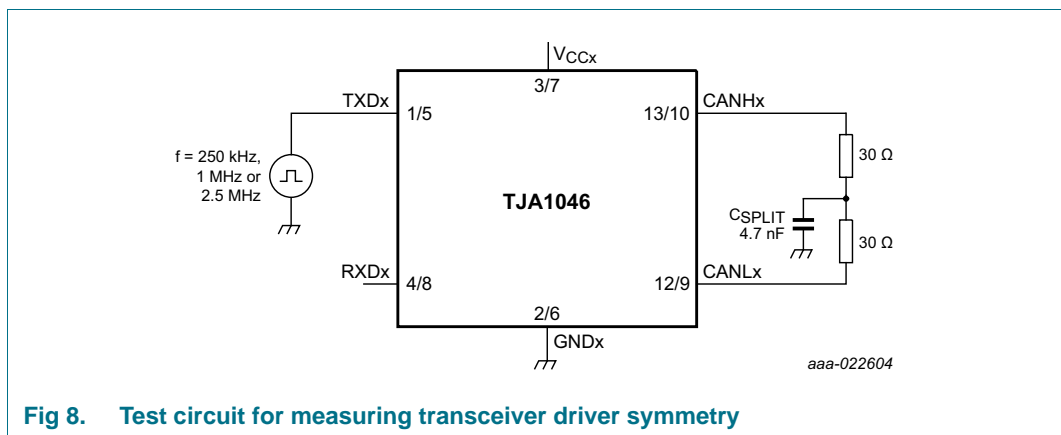

Fig 8. Test circuit for measuring transceiver driver symmetry
- [3] The test circuit used to measure the bus output voltage symmetry (which includes  $C_{\text{SPLIT}}$ ) is shown in Figure 8.